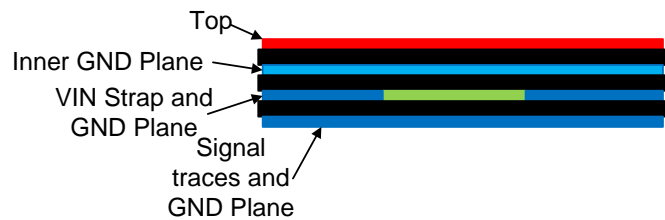

Figure 48. Example Layout for VQFN Package
The PCB layout of any DC/DC converter is critical to the optimal performance of the design. Bad PCB layout can disrupt the operation of an otherwise good schematic design. Even if the converter regulates correctly, bad PCB layout can mean the difference between a robust design and one that cannot be mass produced. Furthermore, the EMI performance of the regulator is dependent on the PCB layout, to a great extent. In a buck converter the most critical PCB feature is the loop formed by the input capacitor(s) and power ground, as shown in Figure 47. This loop carries large transient currents that can cause large transient voltages when reacting with the trace inductance. These unwanted transient voltages will disrupt the proper operation of the converter. Because of this, the traces in this loop should be wide and short, and the loop area as small as possible to reduce the parasitic inductance. Figure 48 shows a recommended layout for the critical components of the LMR33620-Q1.
1. **Place the input capacitor(s) as close as possible to the VIN and GND terminals.** VIN and GND pins are adjacent, simplifying the input capacitor placement. With the VQFN package there are two VIN/PGND pairs on either side of the package. This provides for a symmetrical layout and helps to minimize switching noise and EMI generation. A wide VIN plane should be used on a lower layer to connect both of the VIN pairs together to the input supply; see Figure 48.